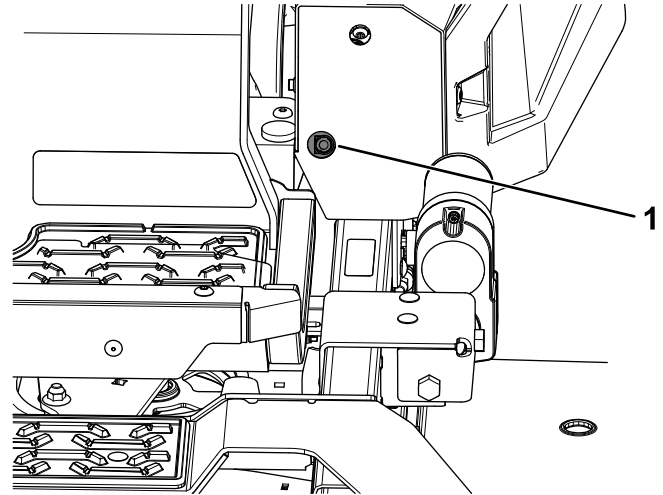
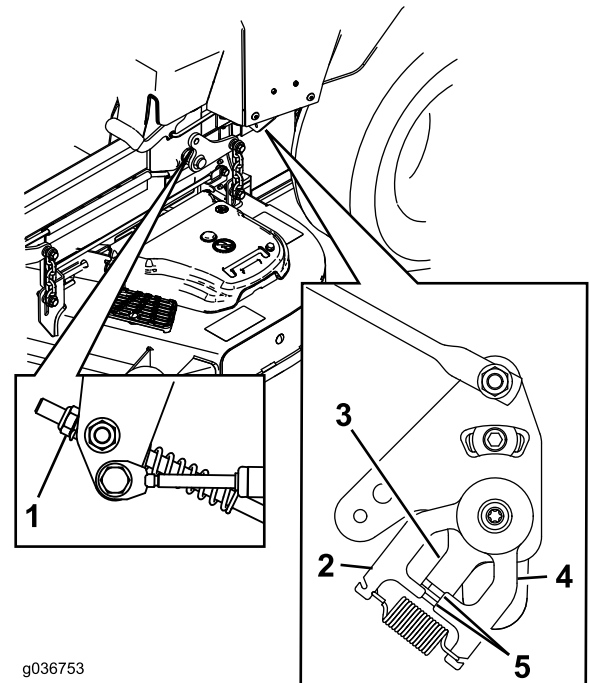

Figure 77
Figure 78
11. Adjust the pump-control-rod lengths by rotating the nut in the appropriate direction until the wheels slightly creep in reverse (Figure 77 and Figure 78).